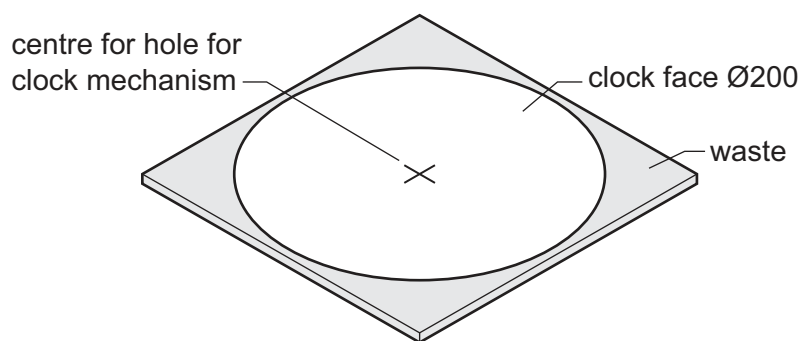

Fig. 12.2
- (c) Fig. 12.2 shows the clock face marked out on a sheet of 5 mm thick acrylic.
- (d) A $\varnothing 5$ hole will be drilled through the clock face shown in Fig. 12.2 for the clock mechanism. State **two** precautions that must be taken to prevent damage to the clock face when drilling the hole.